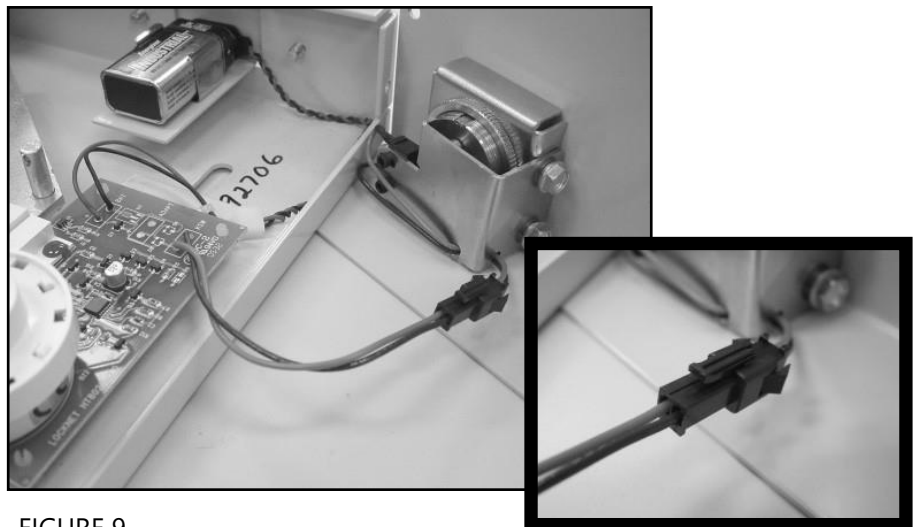

FIGURE 9
13. Connect the wire from the switch on the inside of the alarm assembly cover to the circuit board (See Figure 9).